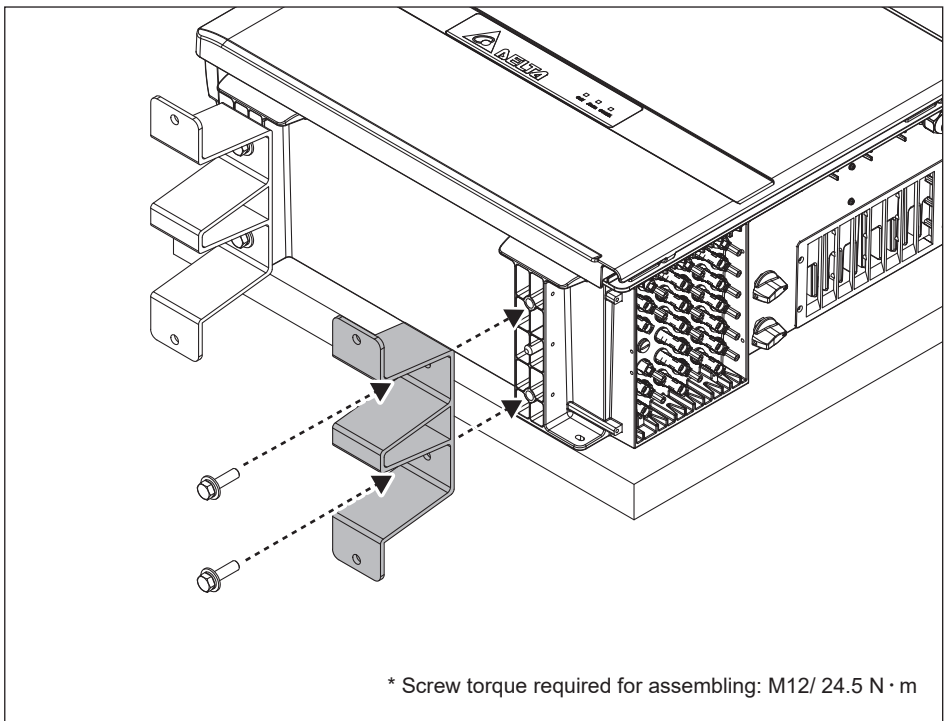

Figure 3-9 : Lock the grounded brackets to feet
1. Fix the grounded brackets to the bottom of the inverter as **Figure 3-9**.